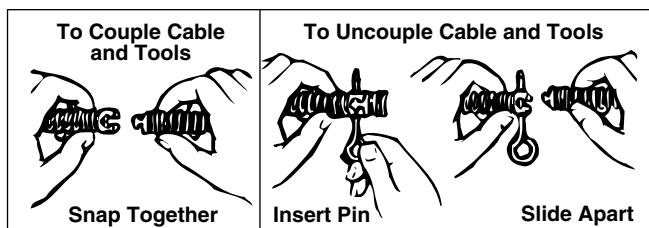

Figure 4 – Coupling and Uncoupling Tools
- Select and install the proper tool to the end of the cable. The T-Slot Coupler allows the tool to be snapped into the cable coupler (*Figure 4*). To remove tool, use the pin key to depress the plunger and slide the coupling apart.